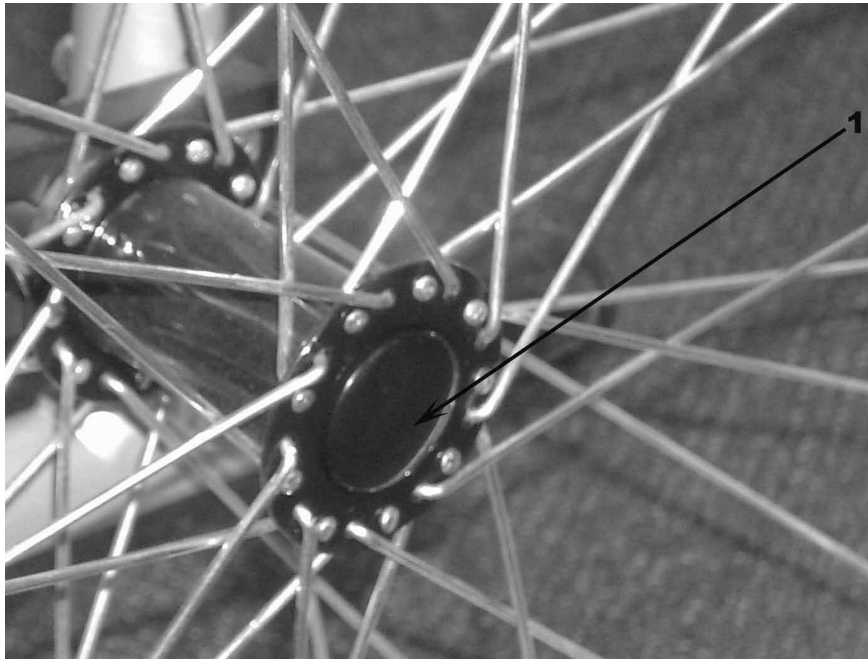

Fig. 6
The wheels on "Dolphin" chair can additionally be easily removed and fitted in by pressing the quick-release button placed in the centre of the wheel (1), (Fig. 6)